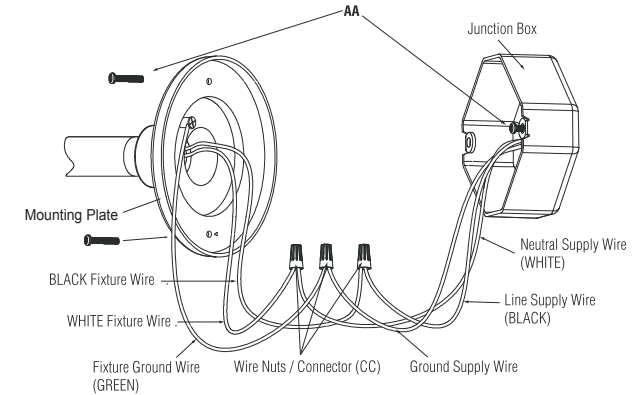

Figure 3
1. Connect the fixture ground wire (GREEN) to the ground supply wire using a wire nut (CC).
2. Connect the BLACK fixture wire to the BLACK (Line) supply wire using the wire nuts (CC).
3. Connect the WHITE fixture wire to the WHITE (Neutral) supply wire using the wire nuts (CC).
4. Carefully tuck all wiring back into the Junction Box, making sure there are no un-insulated wires. (Figure 3)